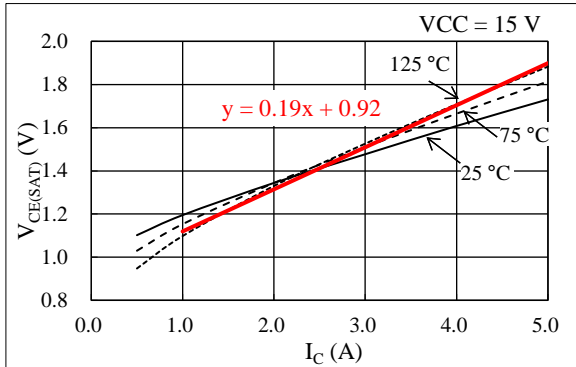

Figure 14-1. Linear Approximate Equation of V_{CE(SAT)} vs. I_C
Steady-state loss in an IGBT can be computed by using the $V_{CE(SAT)}$ vs. I_C curves, listed in Section 15.3.1. As expressed by the curves in Figure 14-1, a linear approximation at a range the I_C is actually used is obtained by: $V_{CE(SAT)} = \alpha \times I_C + \beta$. The values gained by the above calculation are then applied as parameters in Equation (4), below. Hence, the equation to obtain the IGBT steady-state loss, P_{ON} , is: